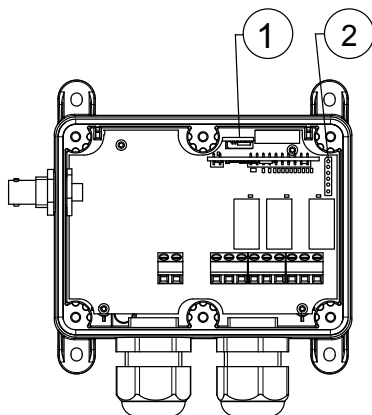

Figure 10. Memory card and display slots in the receiver
4. Insert the memory card that you want to copy in the memory card slot in the receiver (see Figure 10).
5. Mount the display card in the display card slot (see Figure 10).
4. Insert the memory card that you want to copy all parameters to in the memory card slot (see Figure 10).